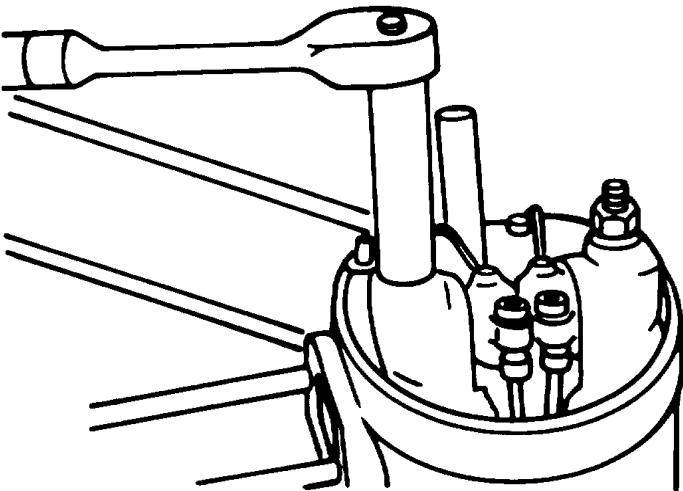

Figure A- 10. Two Injector Side Nuts
- (2) Beginning with the two injector side nuts, loosen the 4 cylinder head nuts with a 13mm deep well socket. (Figure A-10.)